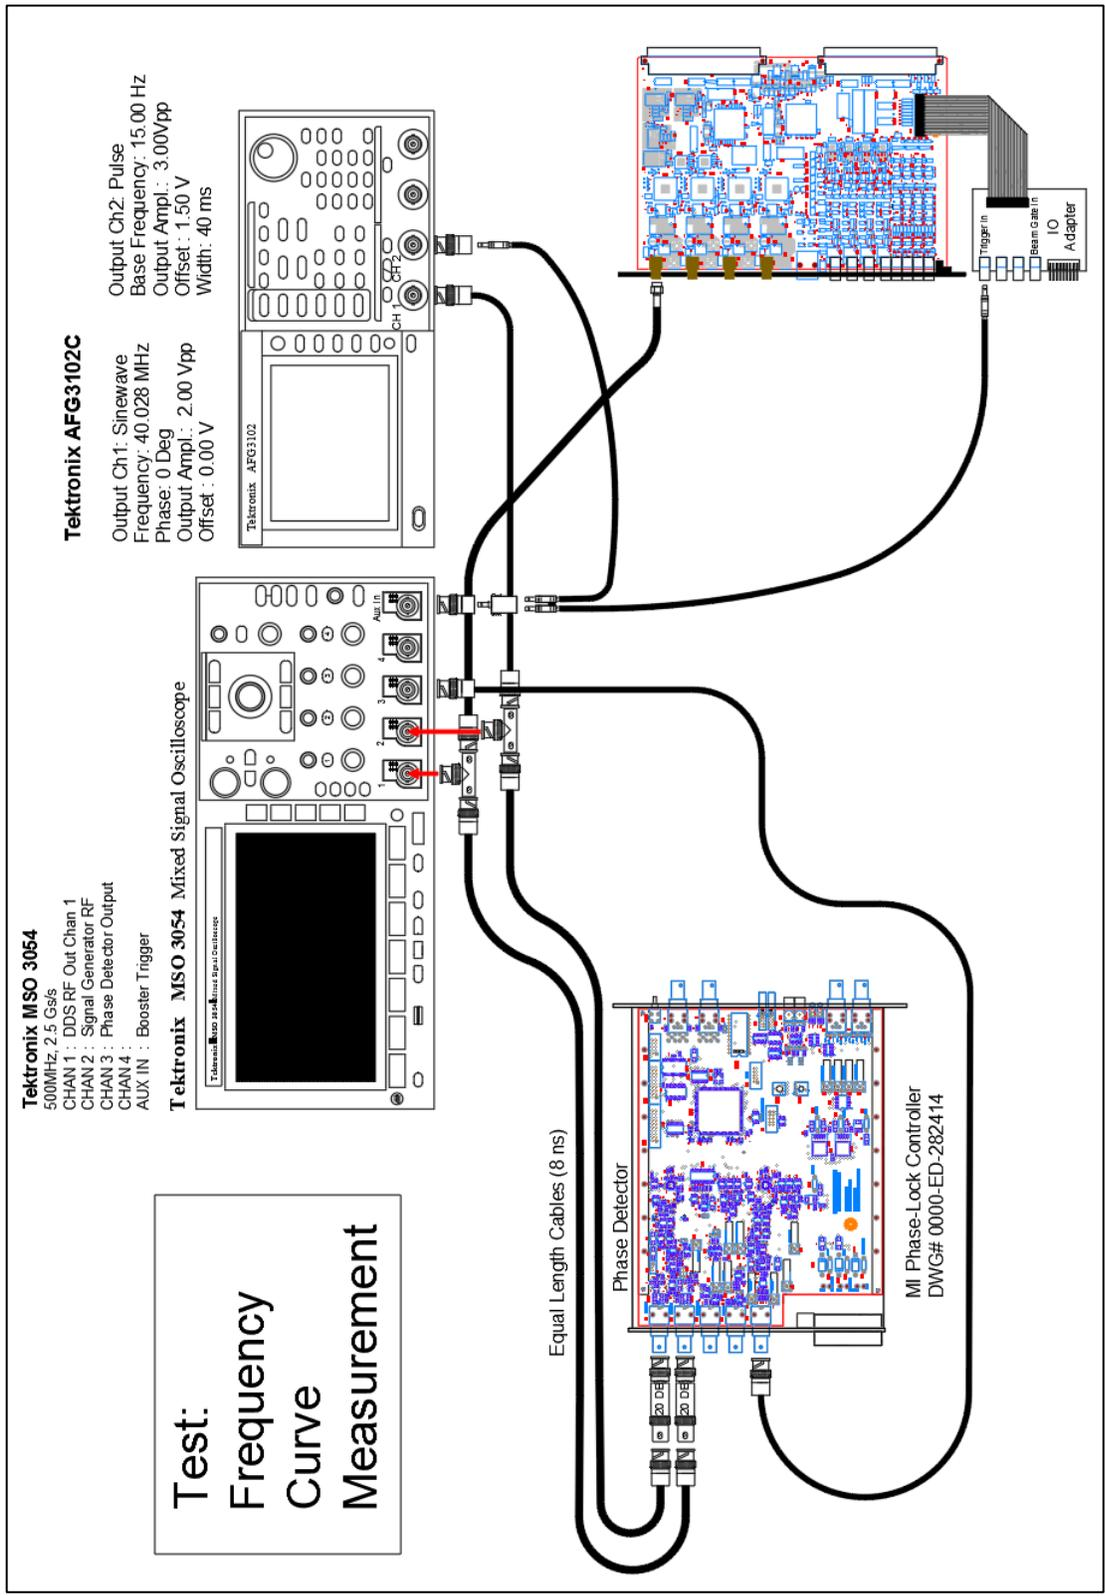

Figure XII.1 Setup for measuring parameters of the frequency sweep.
See Figure XII.1 for the setup.
1. With the setup, back in Figure XII.1, set the frequency of the signal generators sinewave output to the Injection Frequency read through the serial terminal interface.
1. Setup the test equipment as in Figure XII.1.